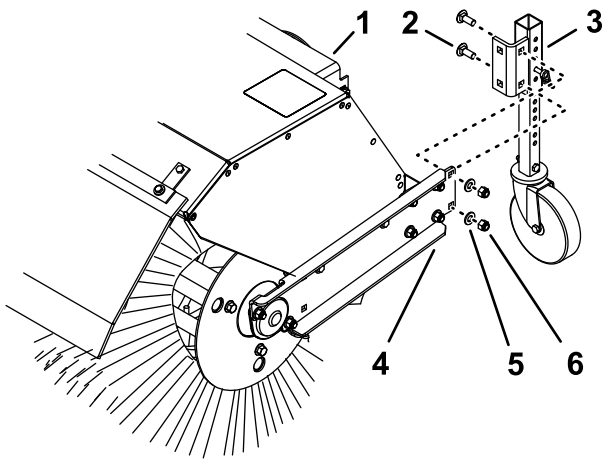

Figure 21
When working in snow, move the casters from the front of the broom arm to the back the broom hood (Figure 21).
2. Remove the 2 locknuts, 2 washers, and 2 carriage bolts (Figure 21) that secure the caster bracket to the broom arm.
3. At the back of the broom hood, align the holes in the caster bracket with the holes on the inboard side of the broom arm (Figure 21).
4. Secure the caster bracket to the broom arm with the 2 locknuts, 2 washers, and 2 carriage bolts (Figure 21).